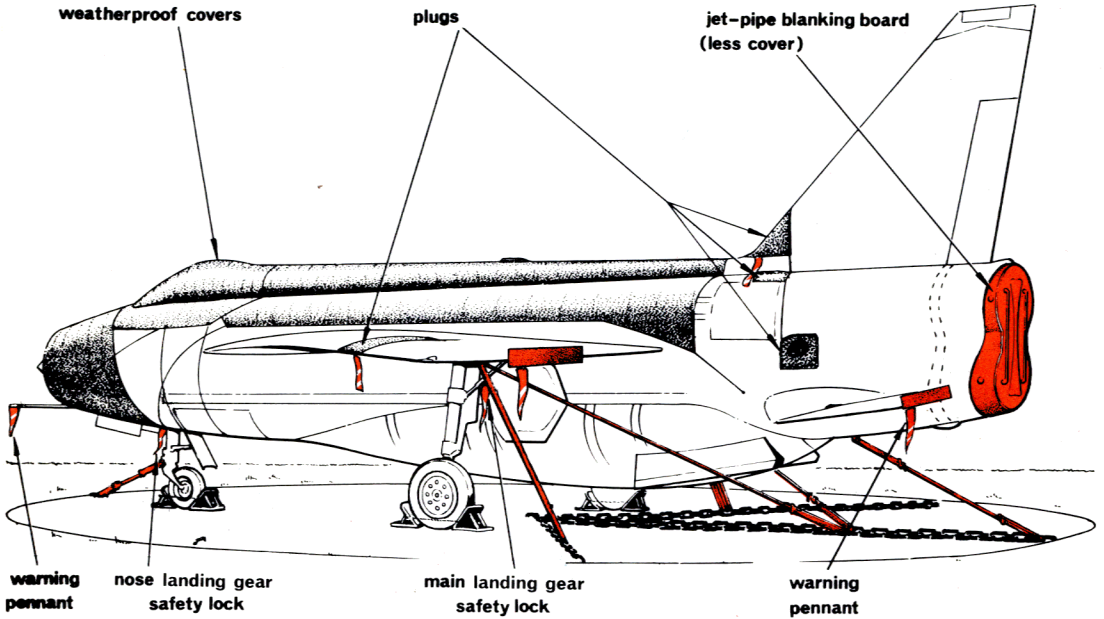

Fig. 9. Picketed Aircraft
16. The aircraft is secured by lashings fastened to the base and aircraft picketing points (Fig 9). The lashings are of rope, steel cable, or chains, the cable and chains being made up in sets with the appro-